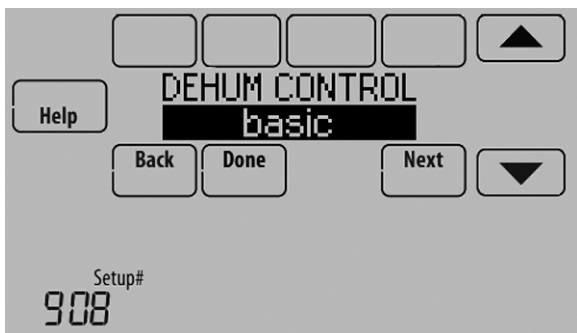

Fig. 215.
6. Set the Dehumidification Control. See Fig. 215. For more information about these options, see “Dehumidification using the Cooling System” on page 88.